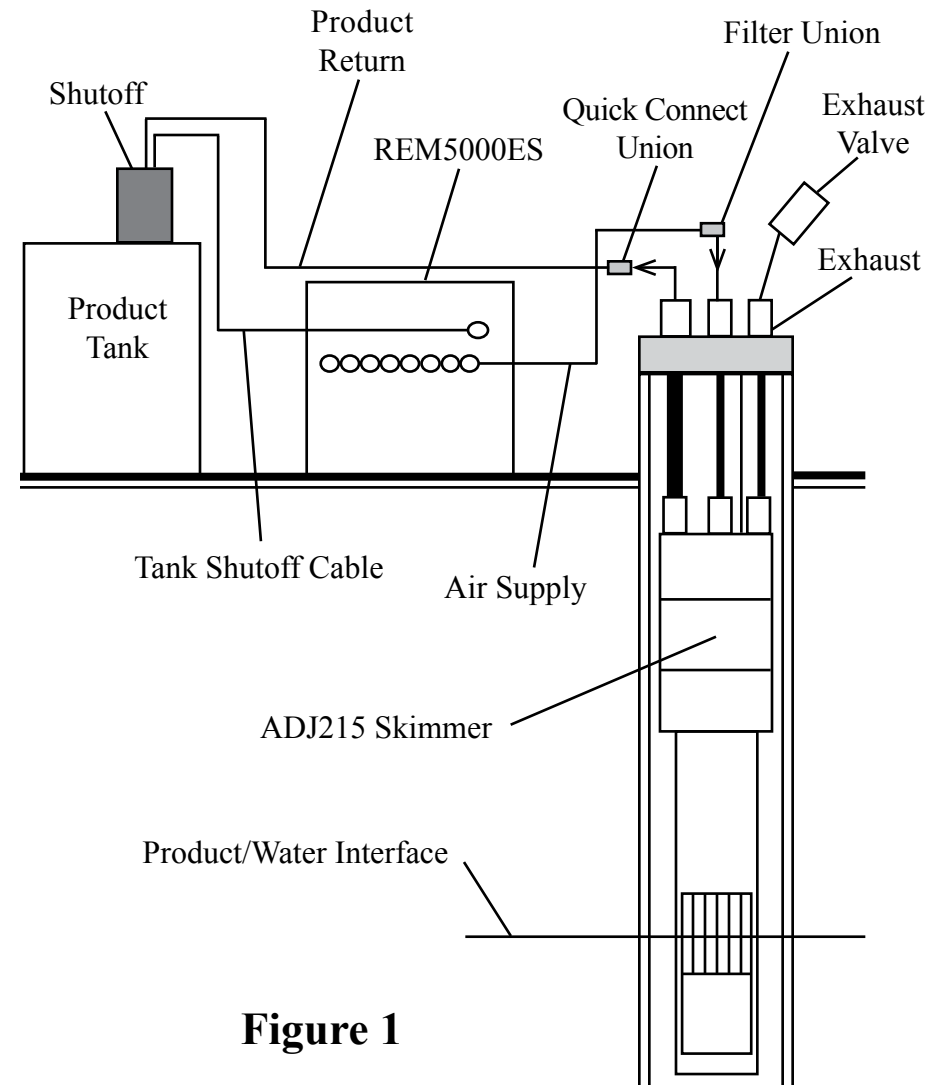
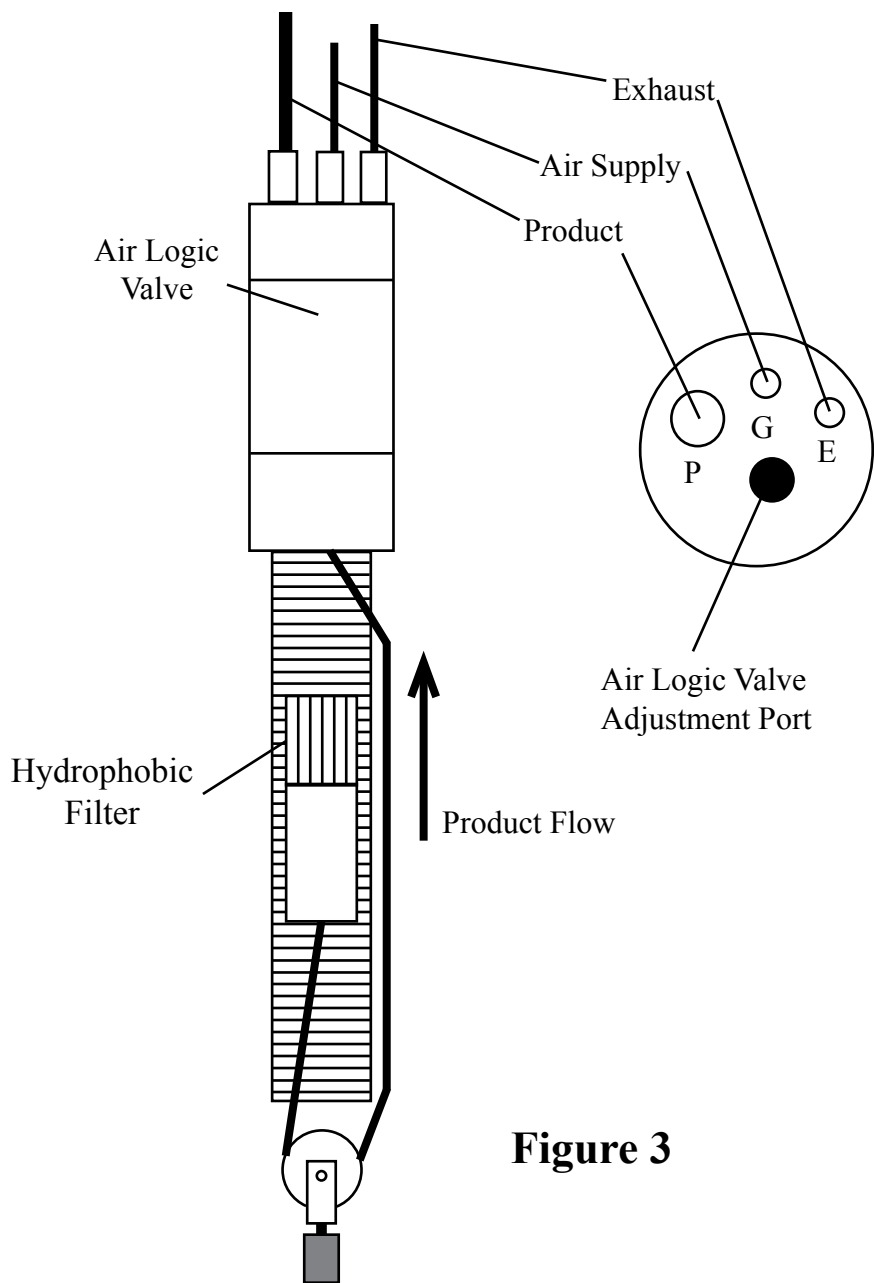

Figure 1
Figure 3
The system (Figure 1) relates to floating hydrocarbon recovery in wells two inches in diameter and larger. This system includes: an intrinsically safe ADJ215 pneumatic Smart Skimmer (Figure 3) which removes only the product to a sheen down to 200 feet deep; and a solar powered Control Station Model REM5000ES which operates up to 8 skimmers intermittently, records run time, and has a high level tank shutoff assembly.
STEP 2. Install holding tank shutoff assembly into holding tank (a 2" standard pipe inlet will be required in the holding tank). The level of product in the holding tank can be set by raising or lowering the liquid level float switch rod. Plug the high level shutoff switch cable connector into the left end of the controller (Figure 1).
STEP 6. Position the skimmer and well cap on the ground near the well. Cut a length of 1/4" OD air supply tubing to cover the distance from the top of the well down to water/product interface, plus 5 feet. **NOTE:** If the skimmer is over 70 feet deep, use 3/8" OD air supply tubing in stead of 1/4" OD tubing. Slide enough tubing through the well cap and attach the end of the tubing to the top of the skimmer tube fitting labeled "G" (Figure 3). If the product thickness is greater than 1 foot, position the center of the skimmer screen 1 foot below top of product. If the product thickness is less than 1 foot, position the center of the skimmer screen at the water/product interface.
STEP 7. Cut a length of 5/16" OD product tubing same length as the air supply line. Install 5/16" OD product tubing through the well cap tube fitting labeled "P" (Figure 3). Slide enough tubing through the well cap and attach the end of the tubing to the top of the skimmer tube fitting labeled "P". **CAUTION:** Do not kink the tubing.